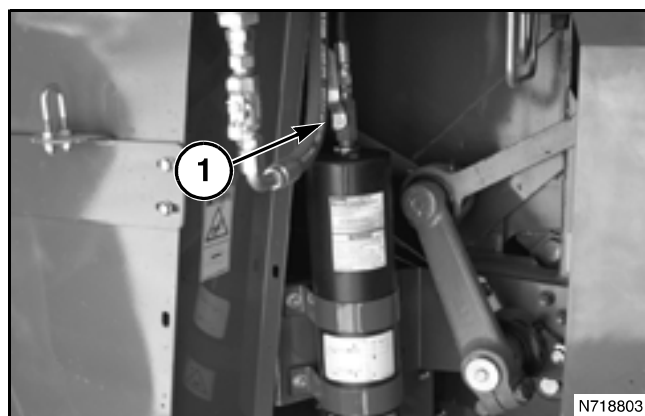

FIG. 443
FIG. 443: The accumulator valve (1) is provided to restrict (feather) or completely eliminate the action of the accumulator when the accumulator is not required. Turning the handle clockwise closes the accumulator valve and isolates the accumulator from the system.